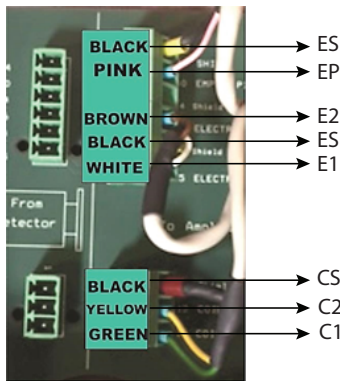

Figure 2: M2000 connector cable wires
3. Connect the cable wires in the junction box. See Figure 2. **DO NOT ROUTE THE WIRES UNDER THE JUNCTION BOARD.**